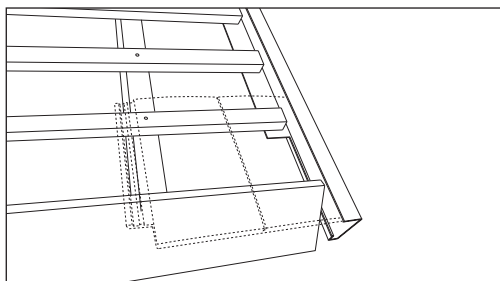

Fig 2 Lining up at eaves
- 2 Square cut the ends of the verge extrusion to the desired length. A connector unit is available to join lengths of extrusion. At the eaves, cut away a length of horizontal flange to accommodate the tilting fillet or support tray (Fig 2).